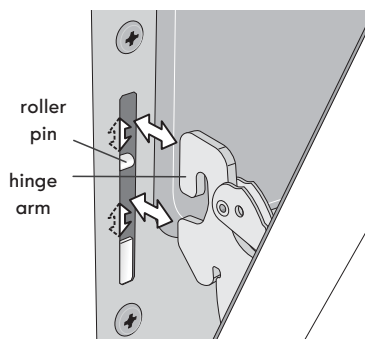

Figure 45: Hinge pin locations
5. With the oven door in the stop position, lift the oven door hinge arms over the roller pins located on each side of the oven frame (See Figure 45).
2. Holding the oven door at the same angle as the removal position, seat the hook of the hinge arm over the roller pins located on each side of the oven door frame (See Figure 45). The hook of the hinge arms must be fully seated onto the roller pins.